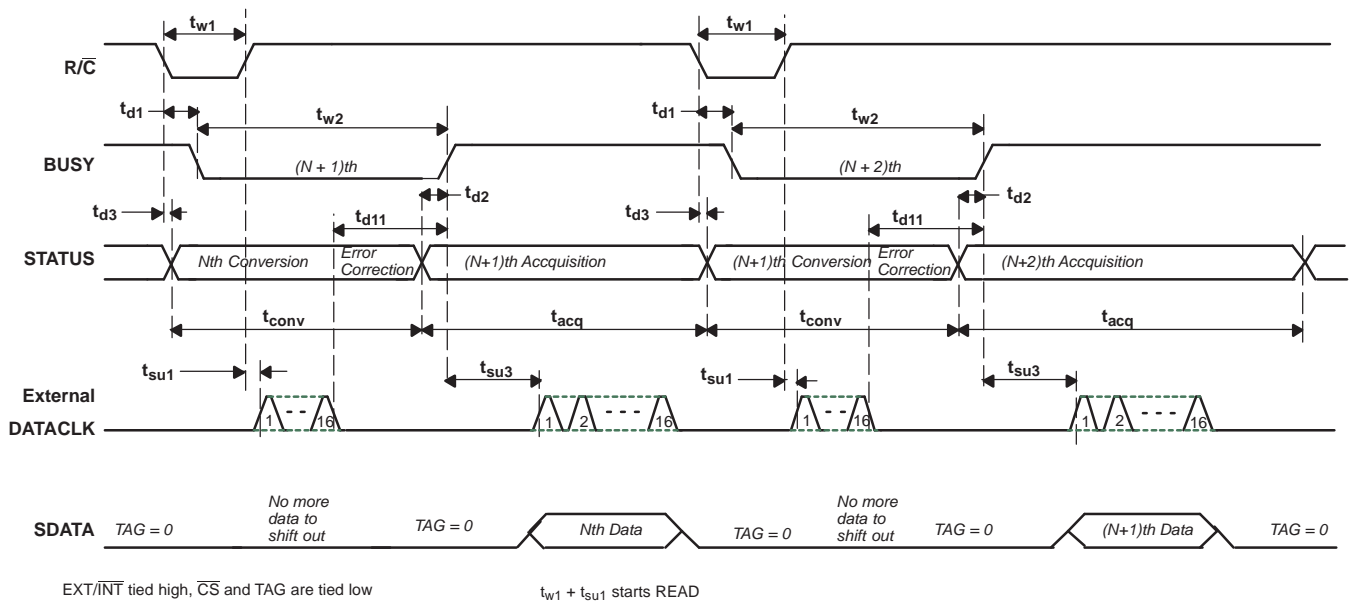
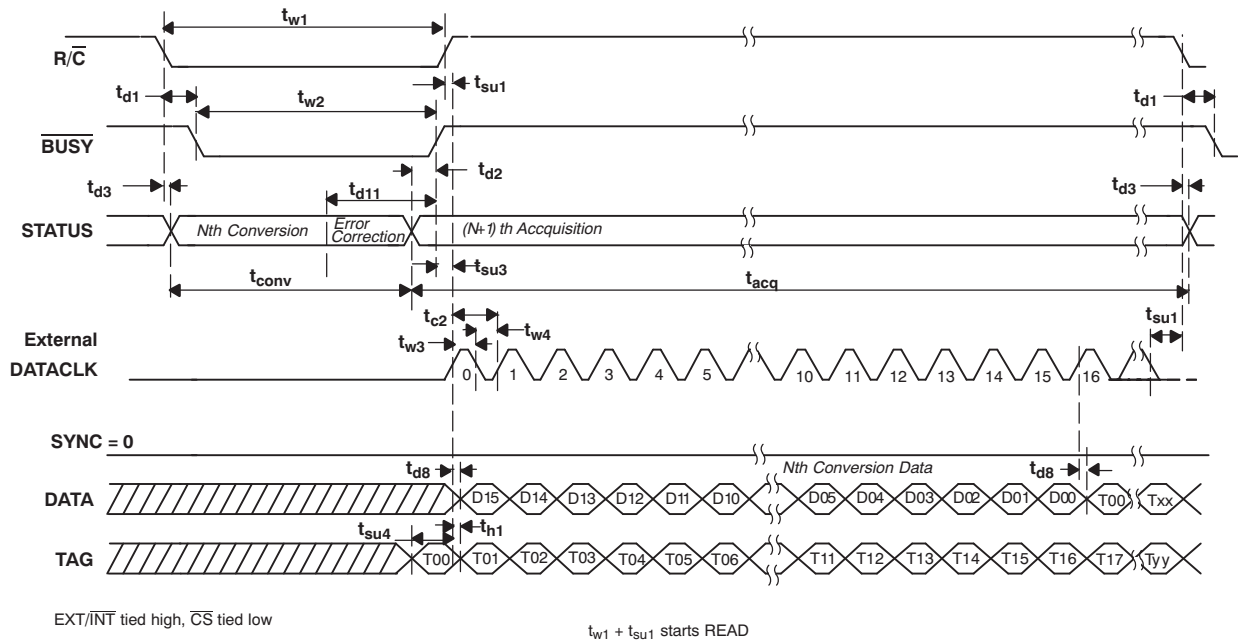
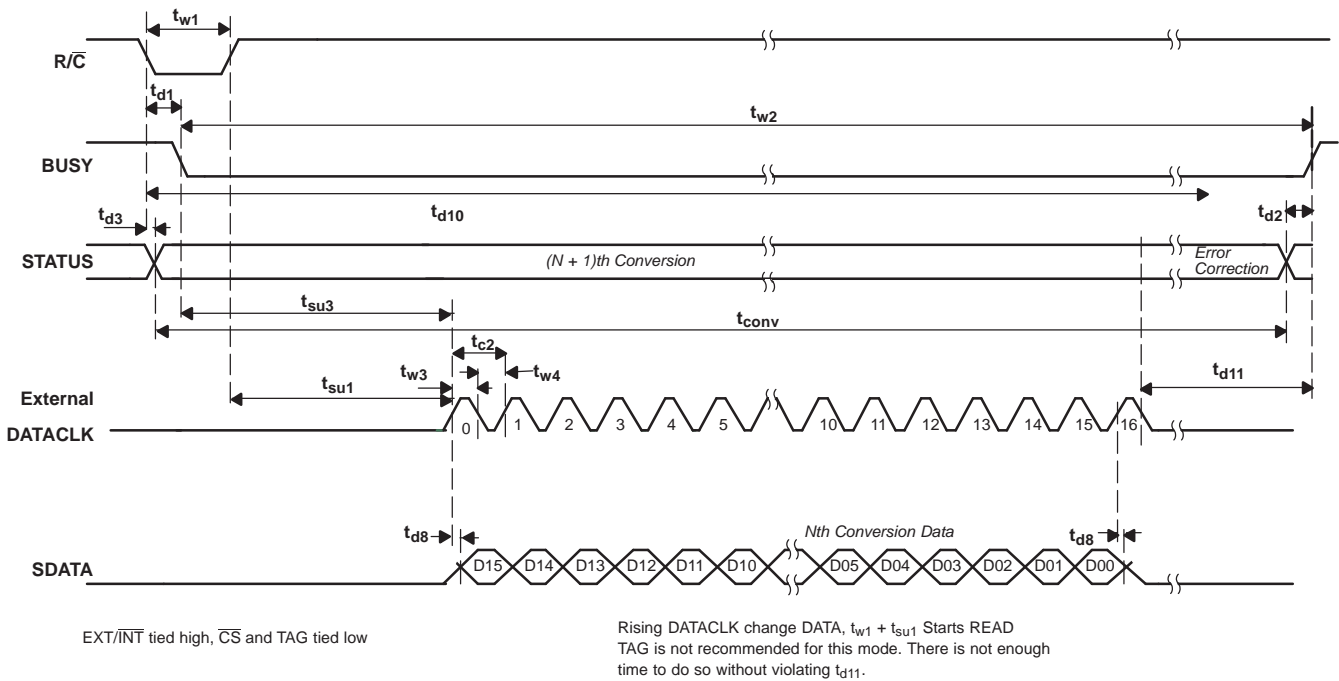

Figure 34. Basic Conversion Timing: External DATACLK
Figure 35. Read After Conversion (Discontinuous External DATACLK)
Figure 36. Read During Conversion (Discontinuous External DATACLK)
(1) See Figure 34, Figure 35, and Figure 36 for constraints on data valid from conversion *N*−1.
After conversion  $N$  is completed and the output registers have been updated,  $\overline{\text{BUSY}}$  (pin 24) goes high. With  $\overline{\text{CS}}$  low and  $\text{R/C}$  high, valid data from conversion  $N$  are output on  $\text{SDATA}$  (pin 19) synchronized to the external data clock input on  $\text{DATACLK}$  (pin 18). The MSB is valid on the first falling edge and the second rising edge of the external data clock. The LSB is valid on the 16th falling edge and 17th rising edge of the data clock.  $\text{TAG}$  (pin 20) inputs a bit of data for every external clock pulse. The first bit input on  $\text{TAG}$  is valid on  $\text{SDATA}$  on the 17th falling edge and the 18th rising edge of  $\text{DATACLK}$ ; the second input bit is valid on the 18th falling edge and the 19th rising edge, etc. With a continuous data clock,  $\text{TAG}$  data is output on  $\text{SDATA}$  until the internal output registers are updated with the results from the next conversion. Refer to Table 6 and Figure 35 for more information.
The switching noise of the asynchronous data clock can cause digital feedthrough, degrading converter performance. Refer to Table 6 and Figure 36 for more information.
A falling-edge-triggered transfer would initiate an SPI transfer after the falling edge of  $\overline{\text{BUSY}}$ , providing the host controller with the previous conversion results, while the current conversion cycle is underway. The timing for this type of interface is described in detail in Figure 36. Care must be taken to ensure the entire 16-bit conversion result is retrieved from the ADS8517 before  $\overline{\text{BUSY}}$  returns high to avoid the potential corruption of the current conversion cycle.
A rising-edge-triggered transfer is the preferred method of obtaining the conversion results. This timing is depicted in Figure 35. This method of obtaining data ensures that SCLK is static during the conversion cycle and provides the host processor with current cycle conversion results.